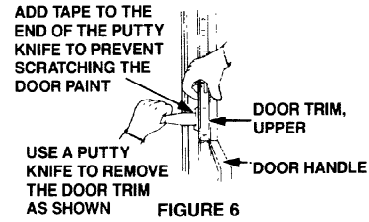

FIGURE 6
2. Use a putty knife to remove the door electronic trim as shown in Figure 6.
4. To remove the trim below the door handle follow step 2 above as shown in Figure 6.